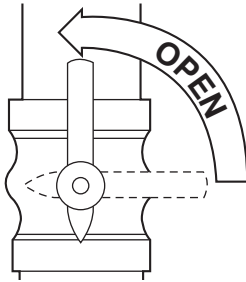

Fig. 15 – Open Valve
- Open the external manual gas valve. See Fig. 15.